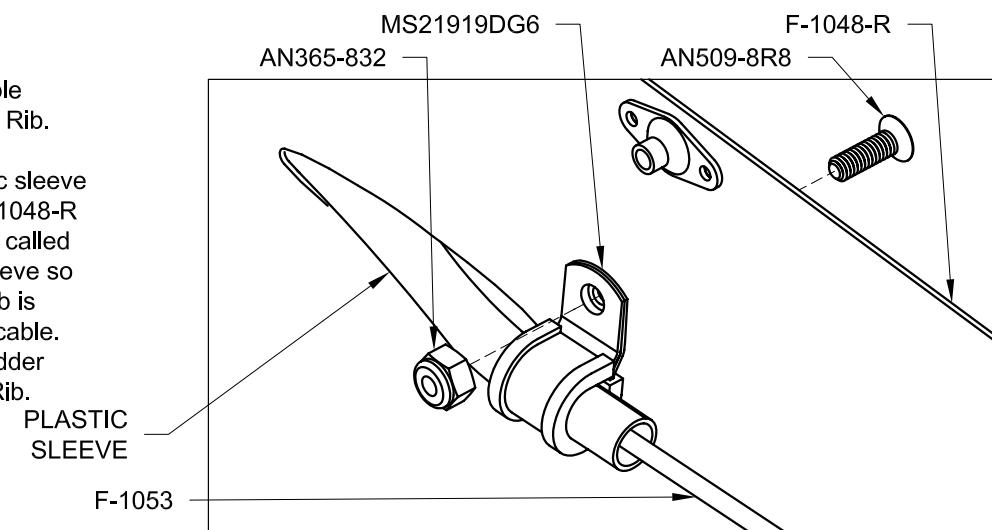

FIGURE 6: RETAINING THE PLASTIC SLEEVE
Step 8: Clamp the forward most plastic sleeve on the F-1053 Rudder Cable to the F-1048-R Fwd Fuselage Rib using the hardware called out in Figure 6. Position the plastic sleeve so that the oval slot in the fwd fuselage rib is completely protected from the rudder cable. Repeat this step to clamp the other rudder cable to the F-1048-L Fwd Fuselage Rib.